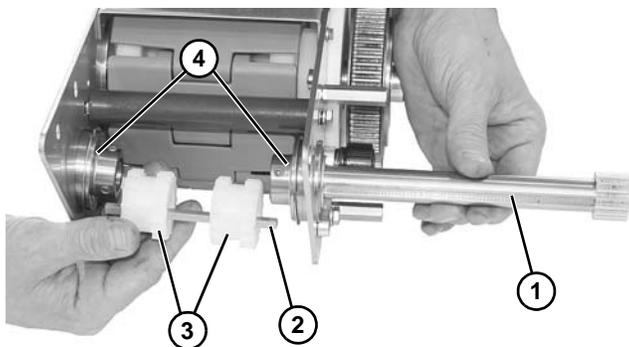

Figure 69
15. Remove drive shaft (**Figure 69, item 1**), making certain not to loose key (**Figure 69, item 2**) when removing gears (**Figure 69, item 3**).
16. Remove key (**Figure 69, item 2**) from gears (**Figure 69, item 3**).
17. Remove bearings (**Figure 69, item 4**) and replace if worn.